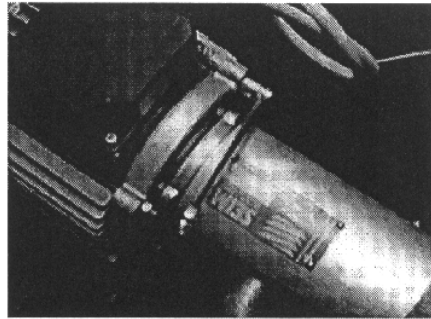

Figure 2
- (a) Undo the 4 no. M5 nuts (motor end plate clamping studs) from the pump end. (Fig 2)